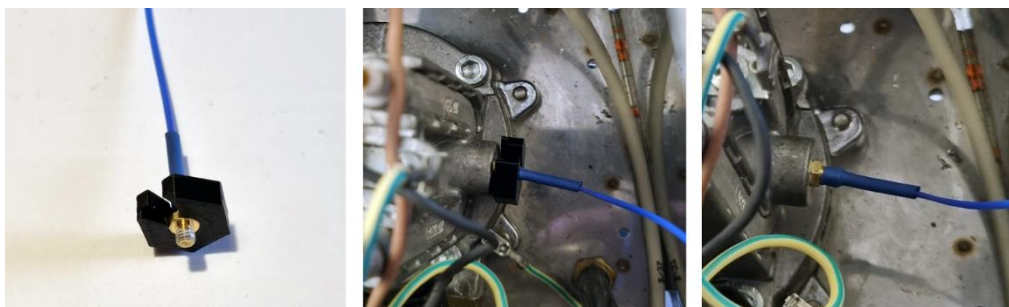

Fig. 9.2
- Use the provided 3D printed tool for help with the M4 plug of the sensor (fig. 9.2). First screw the M4 sensor plug then pose the cable to main board case and plug it in.